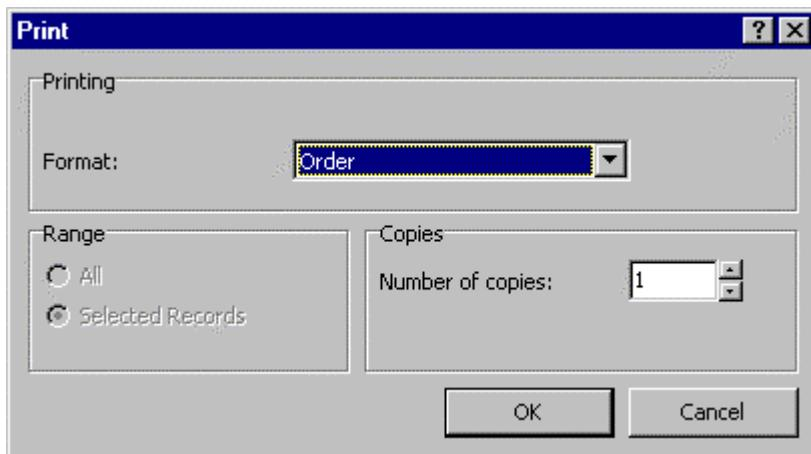

Figure 5-2 Print (Order) Dialog Box
- If the transmission method is “print,” the Print dialog box (*Figure 5-2*) appears.
- Print (Order) dialog box (*Figure 5-2*).
box, Virtua automatically displays a Print Order dialog box (*Figure 5-2*). The Print function prints the purchase order letter (*Figure 5-8*) using the appropriate template file, in this case **engmonprintpo.utm**.